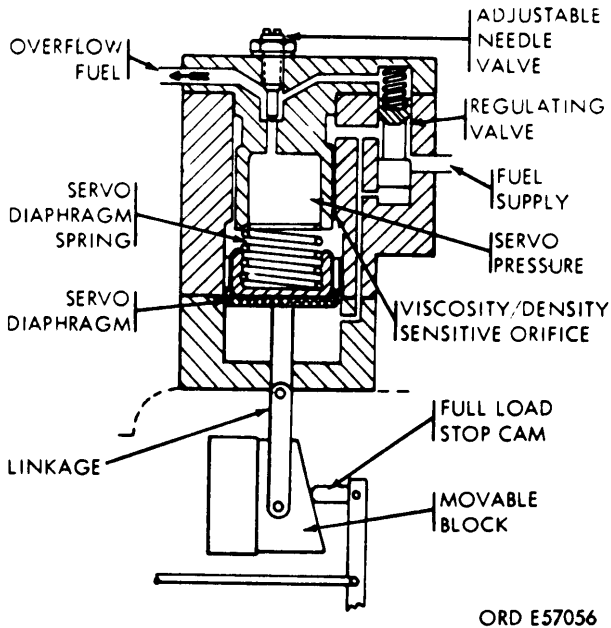
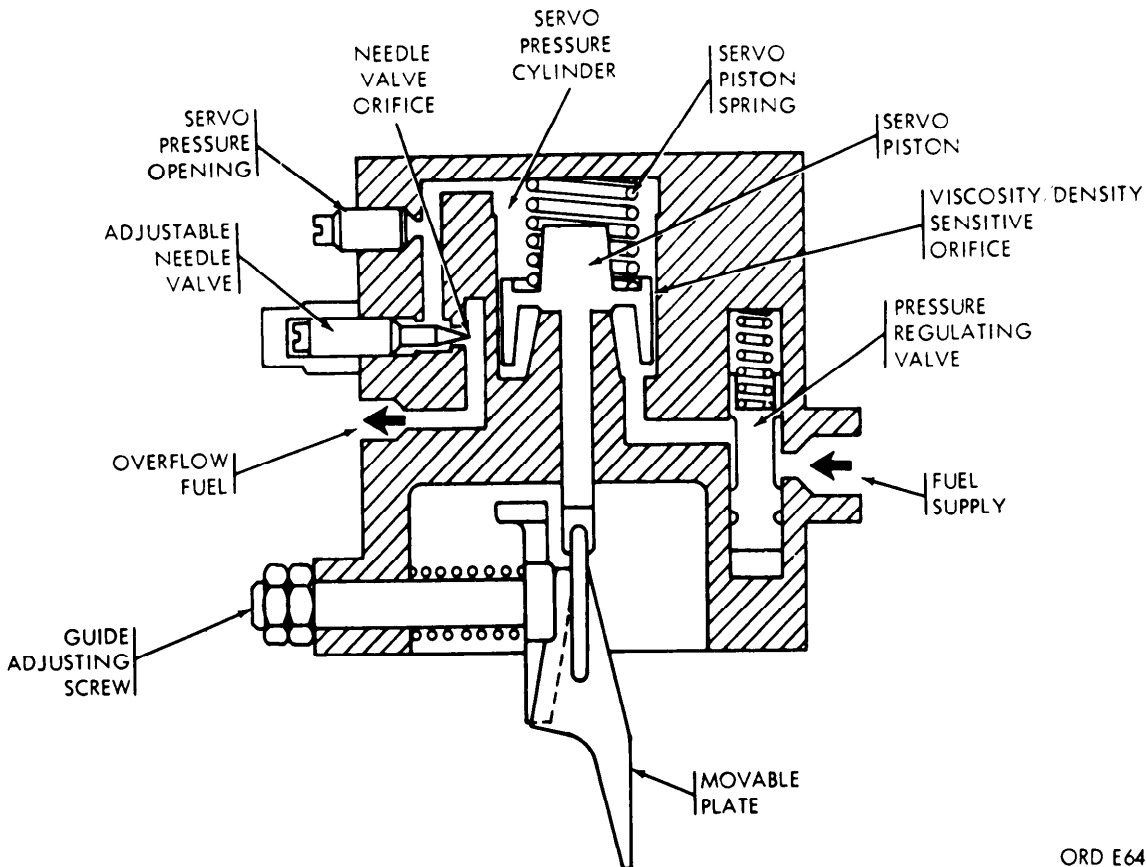

Figure 1-28. Fuel density compensator (early code F), sectional view.
Figure 1-29. Fuel density compensator (code A, B, C, D and E) sectional view.
b. The characteristics of the fuels used in the engine show a definite relationship between viscosity and heating value. The fuel density compensator takes this into consideration by making the viscosity characteristic a sensed variable. In the compensator the fuel is passed in series through two orifices of widely different flow characteristics. A change in viscosity of the fuel flowing through these orifices causes a pressure drop change which moves a servo diaphragm (fig. 1-28) or piston (fig. 1-29) to vary the full-load stop of the fuel injection pump.
c. The fuel supply is admitted to a pressure regulating valve where the supply pressure is reduced to a constant regulated pressure over the engine operating speed and load range. Fuel flows through the first (viscosity/density sensitive) annular orifice formed by a close fitting piston in a cylinder. From the servo pressure cylinder the fuel flows to the second orifice which is a sharp-edged, adjustable needle valve. The two orifices working at widely different restrictions to the flow of fuel form a system sensitive to viscosity changes. The pressure difference between the two orifices will change the servo pressure in direct relationship to the viscosity of the fuel flowing. The position of the spring-loaded servo diaphragm (fig. 1-28) or servo piston (fig. 1-29) is varied in accordance with these servo pressure drops.
d. At any position of equilibrium the spring load plus the servo pressure is equal to regulator pressure. The diaphragm (fig. 1-28) or piston (fig. 1-29) is connected by linkage to a wedge-shaped movable block which serves to vary the position of the full-load cam in the injection pump. Proper selection of the full-load stop wedge angle and servo diaphragm or piston spring rate produces the amount of compensation required to maintain constant power output over a range of fuels.